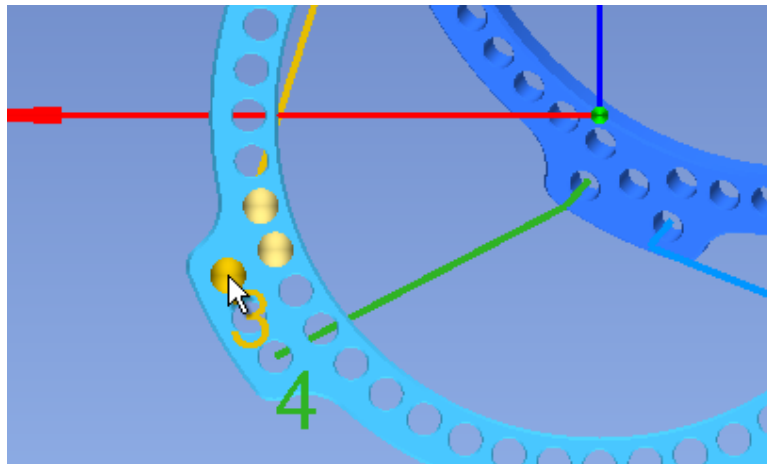

Figure 93 – Non-default mounting positions for strut 3.
2. Click on the desired strut's mounting point in the model and hold down the mouse button. While you keep a strut's mounting point clicked, the system displays all valid non-default mounting positions for this specific mounting point (refer to figure 93).